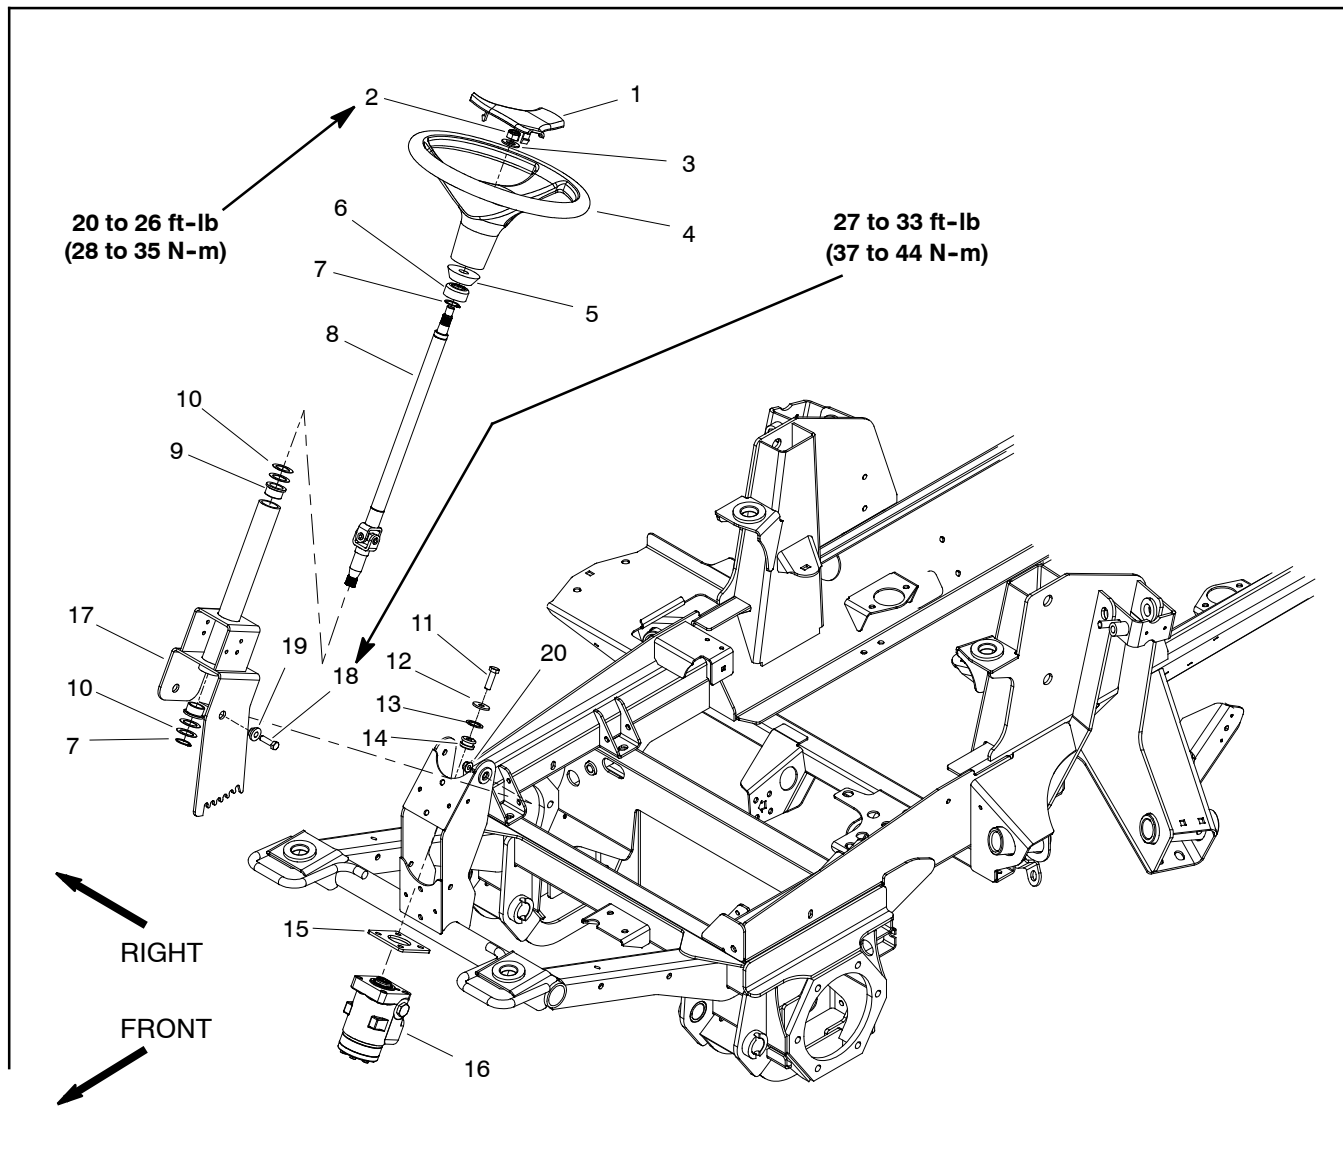

Figure 79
Removal (Fig. 79)
6. Remove steering control valve from machine using Figure 79 as a guide.
Installation (Fig. 79)
2. Install steering control valve using Figure 79 as a guide.